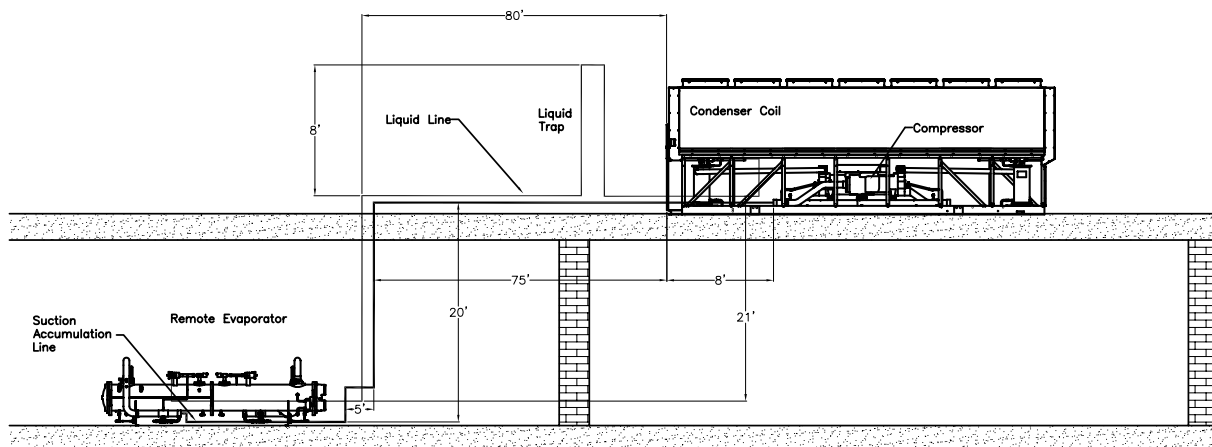

Figure 28 Liquid Line Sizing Example
For this example, refer to Table 11, Table 12 and Figure 28. Assume a 70 ton circuit and a leaving water temperature of 49 degrees F.
- From Figure 28, the actual length of field installed piping is:
- In Figure 28 there are six long-radius elbows. From Table 12, for 1.375 inch elbows, the equivalent feet is:
For this example, refer to Table 14 and Figure 28 assume a 70 ton circuit and a leaving water temperature of 49 degrees F.
Use Figure 28 and the same assumptions from the liquid line sizing example to calculate the suction accumulator line size and length.